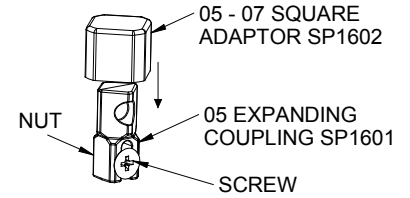

FIGURE 5 - KINETROL SQUARE INSERT
7. Discrete mount units: Discrete mount units are designed to be bracket mounted to the actuator and are fitted with either a male Kinetrol square or a namur VDI/VDE interface insert (including SP1602). Ensure mounting arrangement does not apply side or end load to the switch box shaft. To install Kinetrol Square, ensure anti-backlash screw is slack, insert solid end into 05-07 adaptor then into recess in XLS coupling, attach bracket to XLS then to actuator, ensure the coupling groove is inline with the vane blade to reduce wear and tighten anti-backlash screw (figure 5).